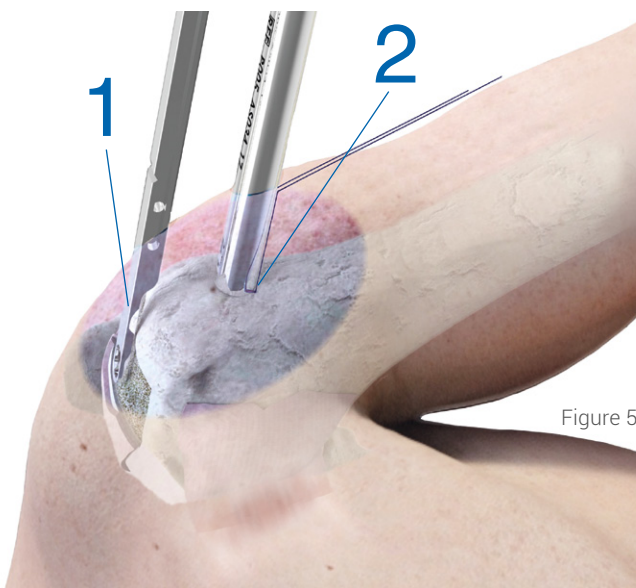

Figure 5
- ▶ UNLOCK THE TARGETING FRAME AND PUSH IT INTO THE PROXIMAL PORTAL (N. 1 FIG. 5) TO THE LOCK POSITION (N. 3 FIG. 6).